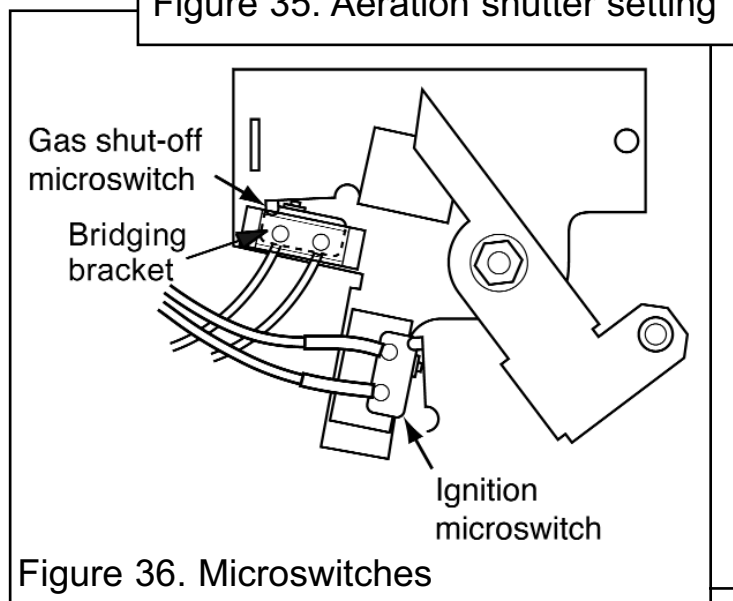

Figure 36. Microswitches
See figure 36.
2. Disconnect the leads from the ignition microswitch (The lower of the two microswitches - See figure 36).
(See figures 36 & 37).
4. Detach the bridging bracket, microswitch assembly by removing two screws (See figure 36).